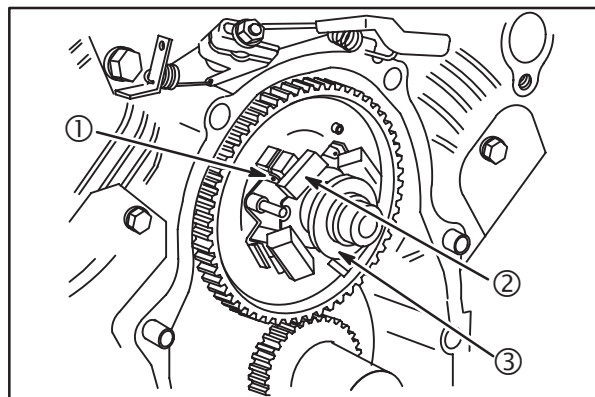

Fig. 7
1. Governor spool (3) must move freely on PTO journal of camshaft, **Fig. 7**. Replace if spool sticks or bearing is damaged.
2. Flyweights (2) must move freely on hinge pins (1). Replace camshaft if hinge pins are loose or governor spool does not move freely on journal.